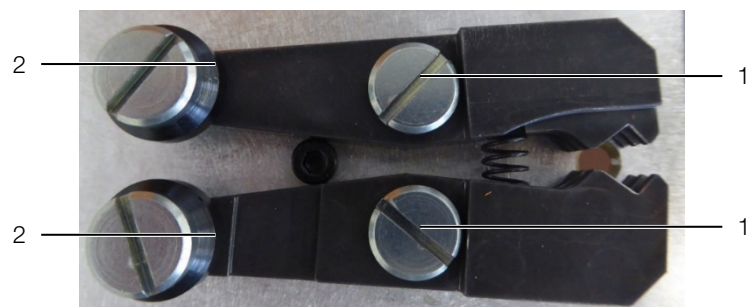

Fig. 17: Wire-holding tongs
- Oil the wire-holding tongs at the rotation points (fig. 17, item 1) and at the contact areas (fig. 17, item 2) of the rollers.